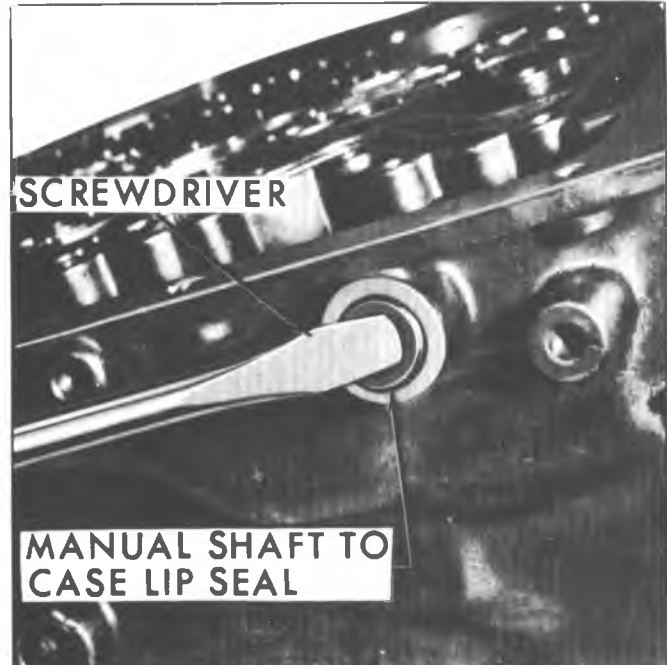

Fig. 7A-24B--Removing Manual Shaft to Case Lip Seal
9. Loosen nut holding range selector inner lever to manual shaft (fig. 7A-22B).